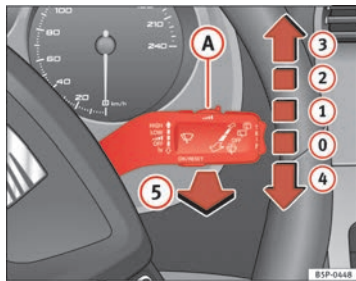

Fig. 86 Windscreen wiper and windscreen wash lever
The windscreen wiper lever ⇒ fig. 86 has the following positions:
- The next speed down will automatically be selected if speed ⇒ page 130, fig. 86 ② or ③ is selected when the vehicle stops. The set speed will be resumed when the vehicle starts again